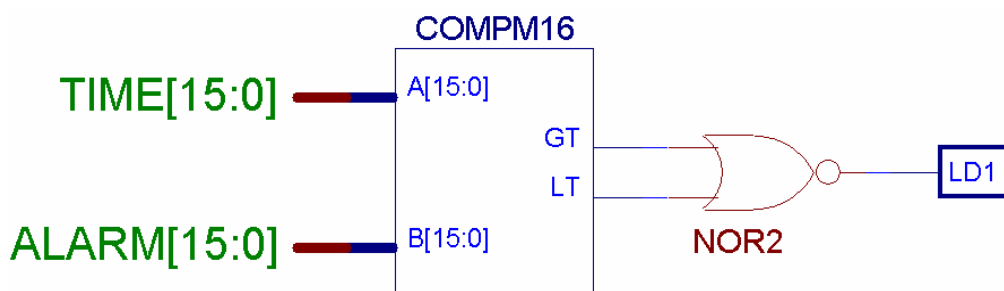

Figure 9.1: Magnitude Comparator
9. Connect the outputs of the COMPM16 to a NOR gate. See Figure 9.1.